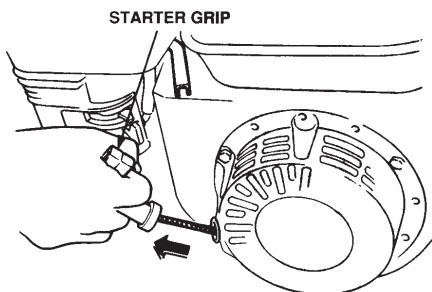

Figure 7. Starter Grip
- Grasp the starter grip (Figure 7) and slowly pull it out. The resistance becomes the hardest at a certain position, corresponding to the compression point. Pull the starter grip briskly and smoothly for starting.